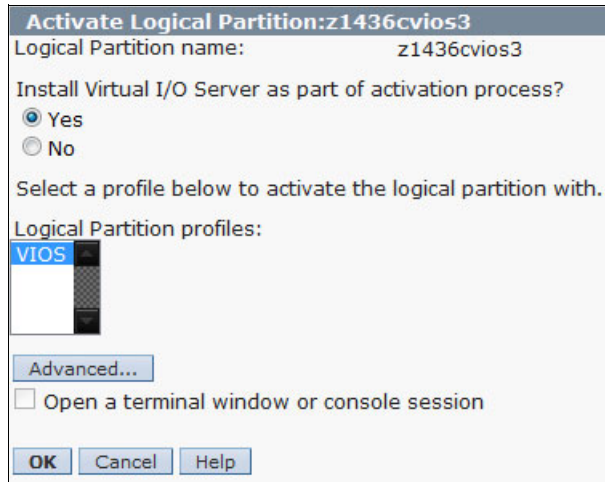

Figure 3-2 Starting the VIOS installation wizard
2. In the Activate Logical Partition window (see Figure 3-2), select **Yes** to install the Virtual I/O Server as part of activation process. Click **OK** to start the installation wizard by using the HMC GUI.